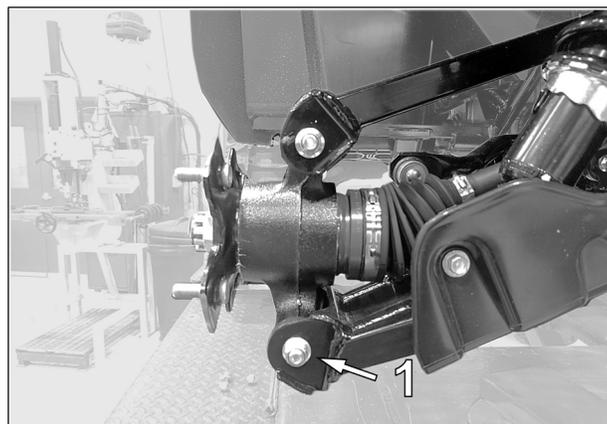

Fig. 6
5. Remove bolt (1) that secures lower suspension arm to wheel hub. See Fig. 6